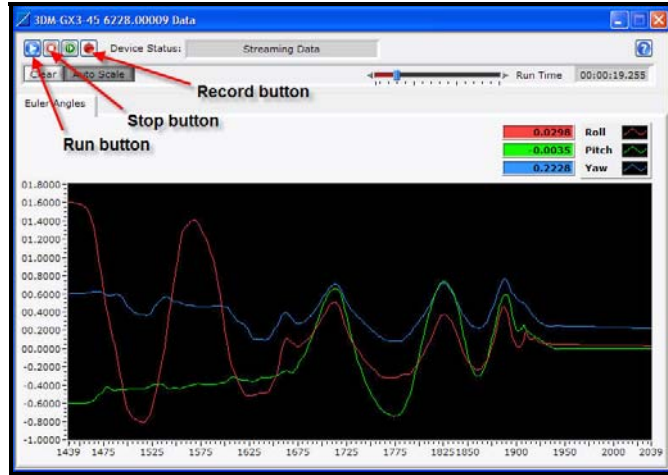

Figure 4. Data Monitor window
- The 3DM-GX3[®] -45 will begin sampling and display Euler Angles (in radians) at 100 Hz in a continuous graph as shown in Figure 4.